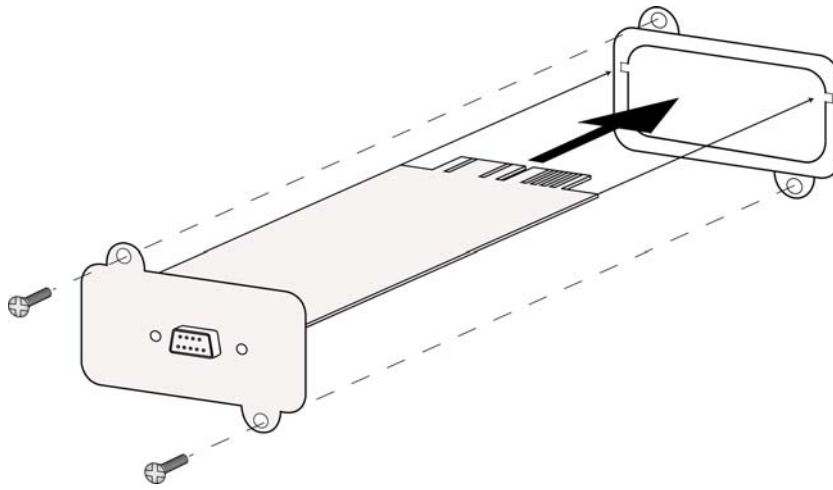

Fig. 4
- **Fig 4:** Insert the relay card into the option slot. Slide the card on the guides on the sides of the slot. Do not attempt to install upside-down – keeping the screw holes aligned will ensure the correct installation. Secure the card using the screws removed in the previous step.